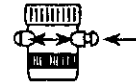

Figure 6
5. To run water through the filter, turn on the COLD WATER faucet and slide the diverter mechanism. To stop the flow, turn off the cold water faucet or slide the diverter mechanism in the opposite direction. (See Figure 6.)